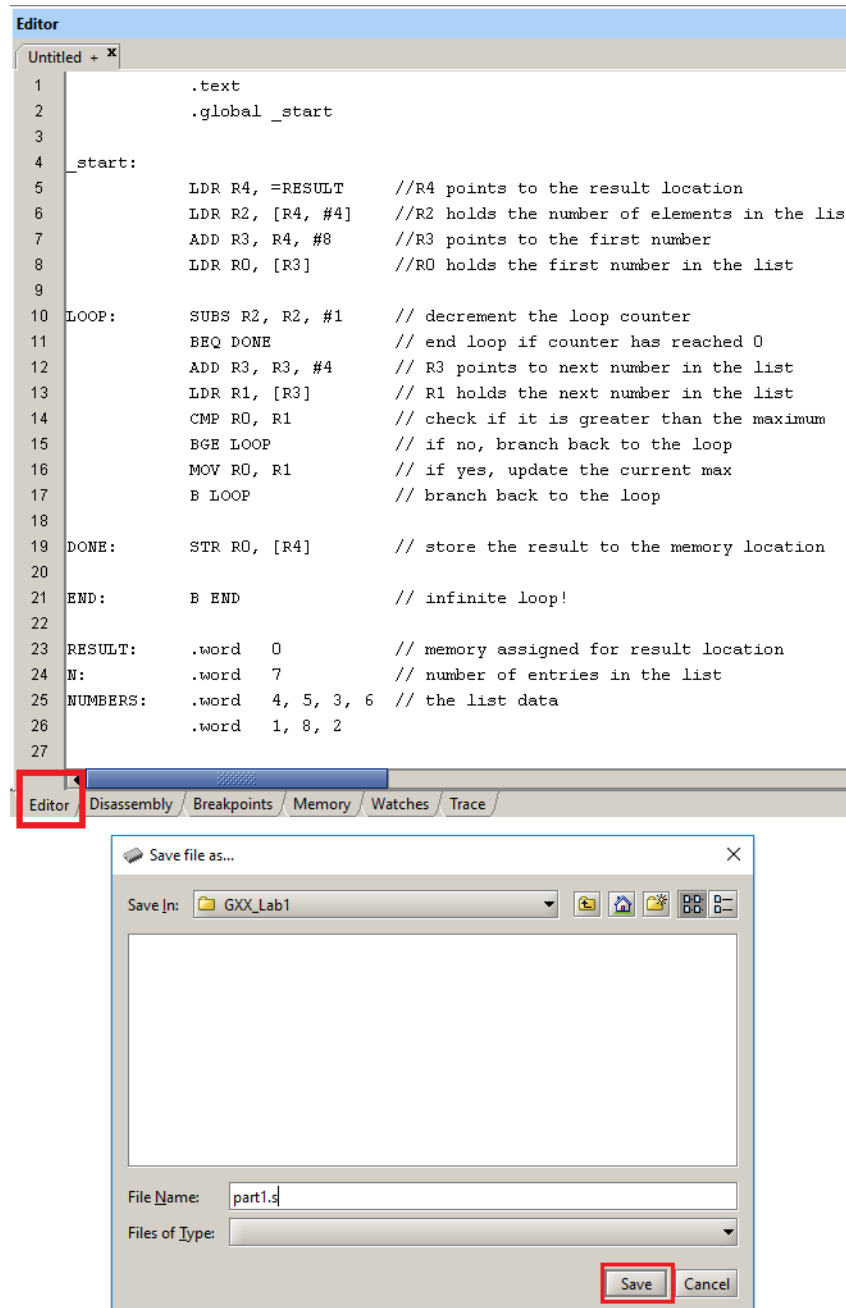

Figure 2: Your first assembly program - Step 2
2. In the new editor window, type out the code as shown in Figure 2 and save this file as 'part1.s' within a new folder 'GXX_Lab1' on your network drive. **Here, GXX stands for your group number! eg. Group 1 would be G01_Lab1.** The code is a simple program to find the maximum number from a list of 'NUMBERS' with length 'N'. Notice the extensive use of comments! This practice should be used throughout this course, especially with assembly programming!